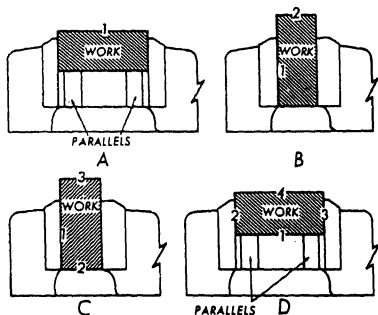

Figure 11-55.—Machining sequence to square a block.
2. Place the work in the vise, as shown in figure 11-55.